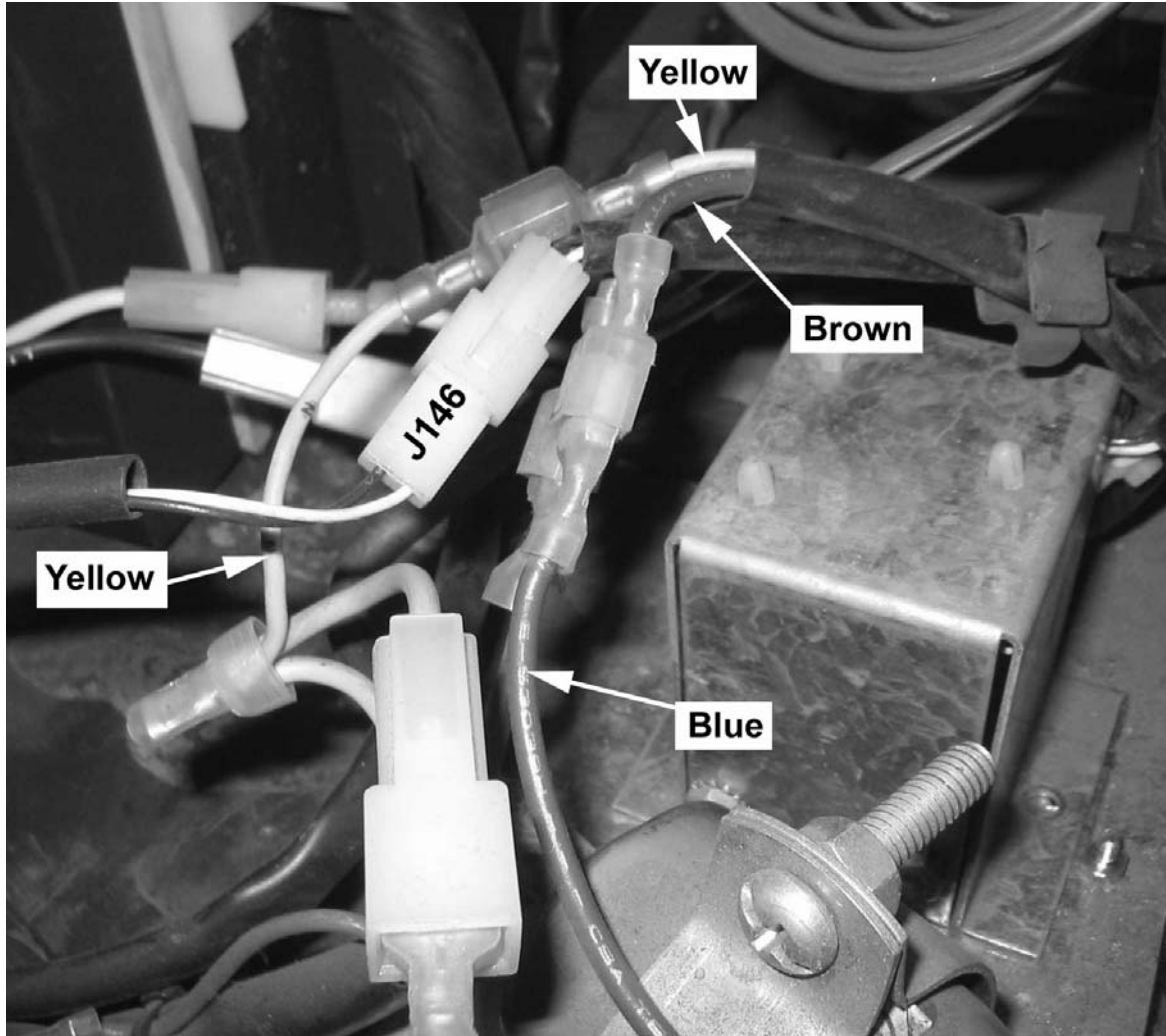

Figure 4
9. Using the original #6-32 screws (p/n 9900009) and nuts (p/n 9900078), attach the revised Triac and Bracket Assembly to the refrigeration unit base as shown in Figure 4.
10. Connect the Brown triac assembly wire to the Blue compressor harness wire, the Yellow wire to the Yellow wire in the existing cabinet harness and the Blue triac assembly wire to the Blue wire in the cabinet harness (not visible). Connect the two-pin DC harness to J146 as shown in Figure 4.